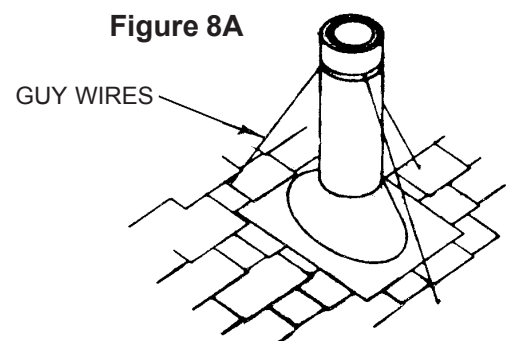

Figure 8A
5. Chimneys shall extend at least 3 feet above the highest point where they pass through a roof of a building and at least 2 feet higher than any portion of a building within a horizontal distance of 10 feet (see Figure 1). If the chimney extends more than 6', external bracing will be required. Plumbers tape may be wrapped around chimney and secured with a minimum of three (3) guy wires anchored to roof, 120° apart (see Figure 8A).